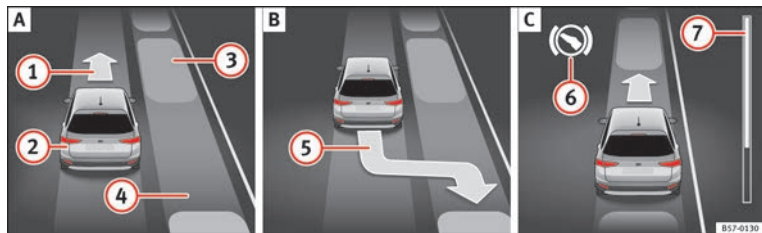
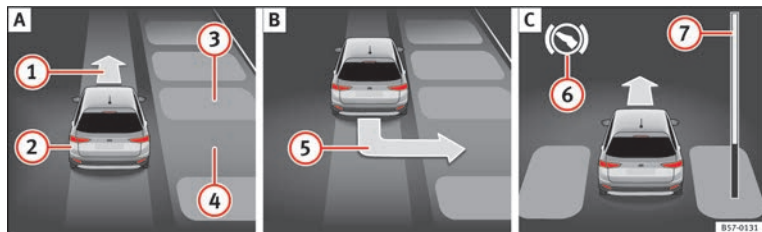

Fig. 212 On the instrument panel display: parallel parking. **A** Finding a parking space. **B** Parking position. **C** Manoeuvring.
Fig. 213 On the instrument panel display: perpendicular parking. **A** Finding a parking space. **B** Parking position. **C** Manoeuvring.
Key to **Fig. 212** and **Fig. 213**:
» **Fig. 212** ⑦ and » **Fig. 213** ⑦ on the screen of the instrument panel displays the relative distance to be covered. The greater the distance, the fuller the progress bar. When driving forward, the content of the progress bar decreases upwards, and when reversing, it decreases downwards.
2.	Look at the display on the instrument panel to see if the space has been detected as “appropriate” and if the correct position for parking has been reached » Fig. 212 [B] or » Fig. 213 [B]. The space is considered “appropriate” if the display on the instrument panel shows the message to park [5].
Reverse until the ParkPilot continuous signal is heard. OR: reverse until the instrument panel displays the message to go forwards » Fig. 212 [A] [1] or » Fig. 213 [A] [1].
9.	OR: go forward until the instrument panel display shows the message to reverse. The Park Assist system steers the vehicle forward and back until it centres it in the space » Fig. 212 [C] or » Fig. 213 [C].